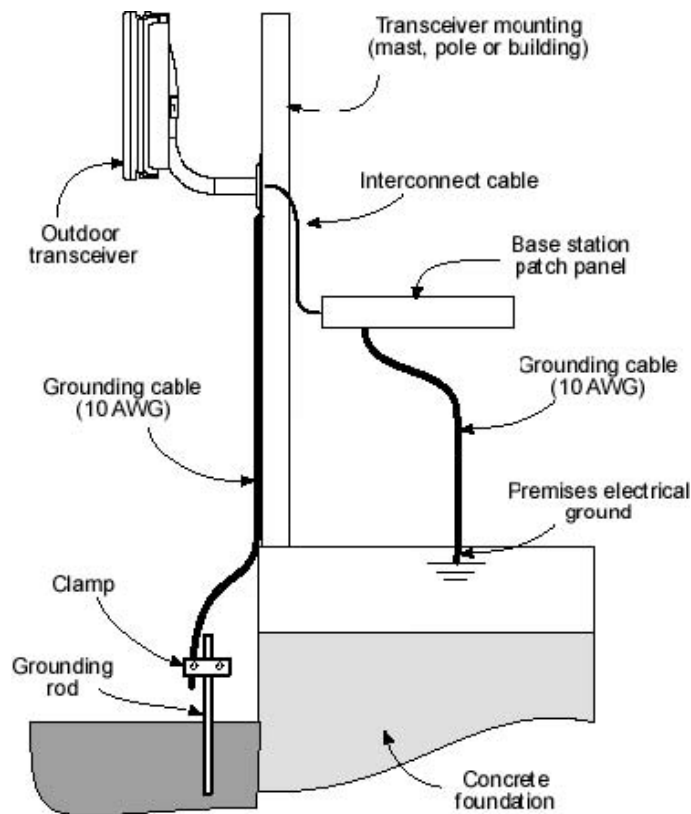

Figure 7-1 Ground Connections to Access Point Transceiver
- 1) Grounding all the outdoor transceivers as shown in Figure 7-1.
- 3) Attach a grounding clamp to the grounding rod. You will use this clamp to attach grounding wires for both the outdoor transceiver and indoor wallbox, reference Figure 7-1.